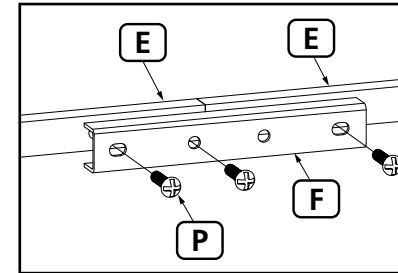

Fig. 3
Use three Screws M6x14 mm (P) to connect two Cross Beams (E) and Cross Beam Connector (F); see Fig. 3. Leave one of two screw holes in the center of the Cross Beam Connector (F) open.